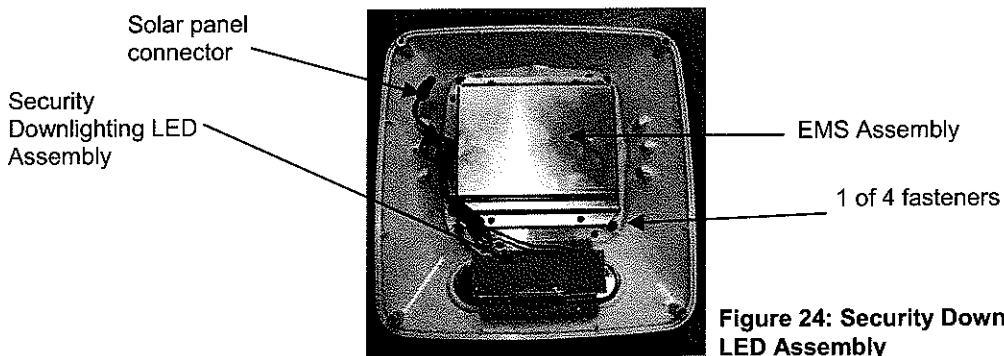

Figure 24: Security Downlighting LED Assembly
3. Remove the Security Downlighting Assembly by removing the four fasteners (see Figure 24) and replace with new Security Downlighting Assembly.